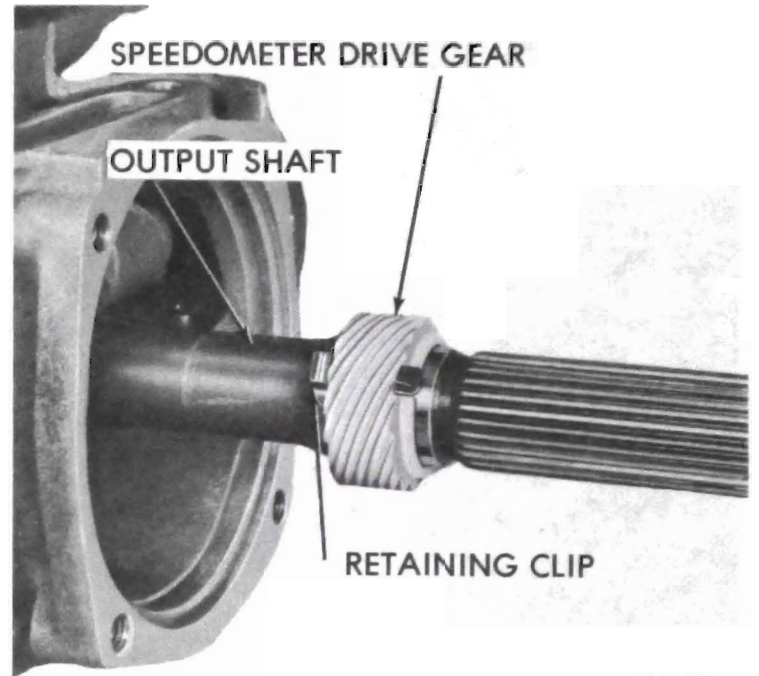

Figure 75-253
2. Align slot in speedometer drive gear with retaining clip and install. See Figure 75-253.